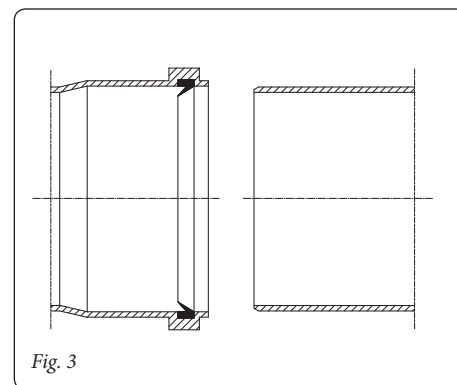

Fig. 3
- place the adapter (3) on the flange with sample points and the gasket in between (1) (*which does not require lubrication*), positioning it with the circular projections downwards in contact with the boiler flange and tighten using the 4 screws (2) in the kit;
- **Positioning the gaskets.** Before assembling the flue system, check that the gaskets are positioned correctly (Fig. 3). If component lubrication is not sufficient (applied previously by the manufacturer), remove the residual lubricant using a dry cloth, then grease the parts with the supplied lubricant in order to ease the push-fitting operations.